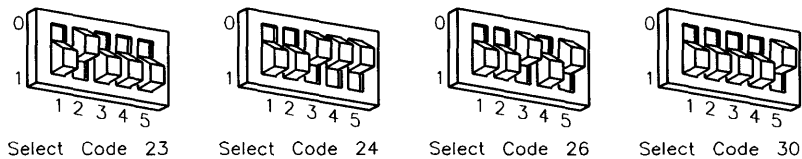

Figure 5-13.
- b. Set these switches to one of the four select codes given in Figure 5-13, unless you have used them elsewhere. Refer to the installation note that came with the interface if you need additional switch settings.